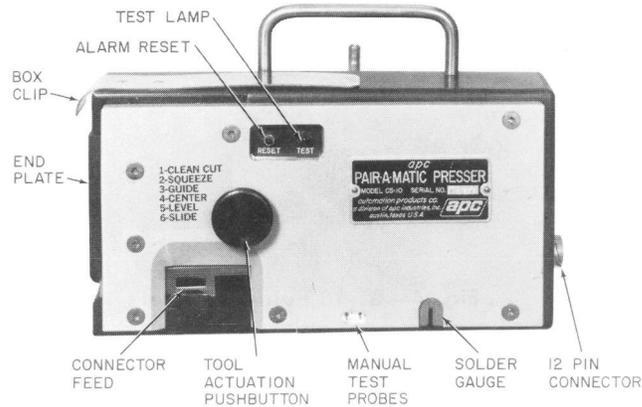

Fig. 2—CS-10 Presser (Front View)
2.03 The CS-10 PAIR-A-MATIC (Fig. 2 and 3) is a pneumatically powered, pushbutton operated tool, used to feed and press pairs of taped B wire connectors.